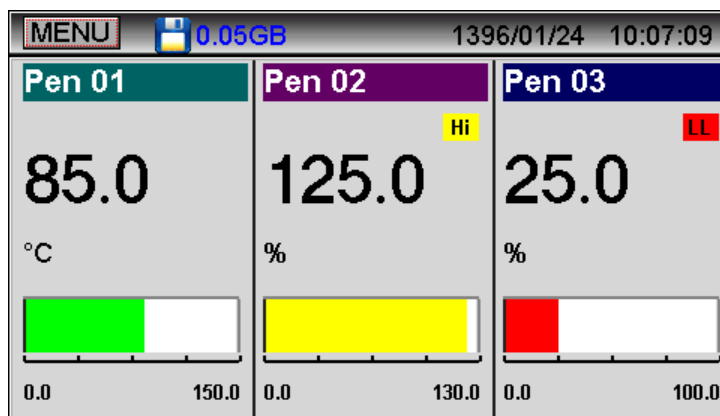

Figure 3.D: Displaying alarms in Horizontal bar graph
- In the Horizontal bar graph submenu, if there are alarms on each of the pens (as shown in Figure 3.D), the alarms are displayed in yellow in Hi and L modes, and in red in HH and LL modes at the end of the of the pen's bar graph with alarms.